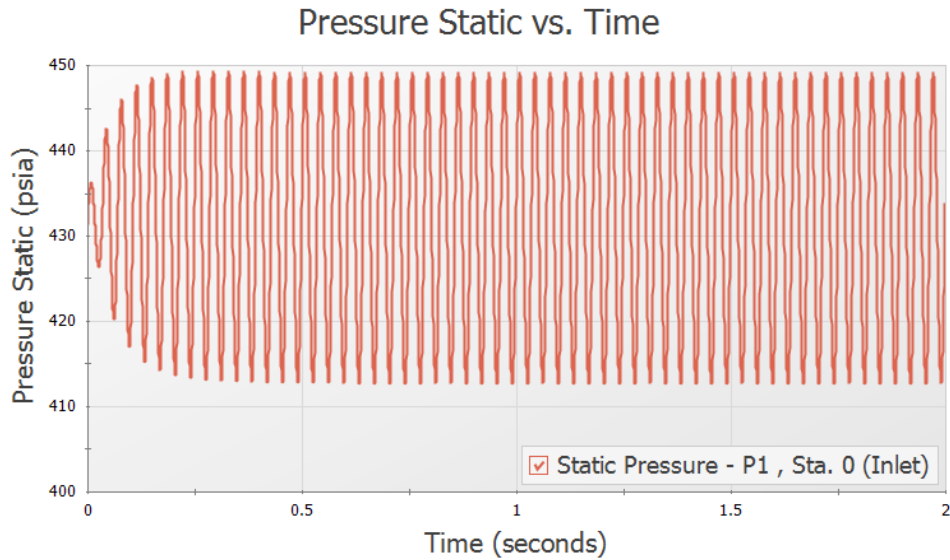

Figure 2: Example pressure results at the outlet of the reciprocating compressor with an oscillating flow transient specified.
- **Time Until Steady State Pulsation** - The time required for the dissipation of artificial transients caused by the introduction of a flow rate wave to the system. This time should be determined by running the scenario with the "Time Until Steady State Pulsation" set to 0, then plotting the pressure results at the outlet of the compressor. The Time Until Steady State Pulsation should be set as the time at which the pressure waves have consistent amplitudes. For example, in Figure 2 below the waves begin to reach constant amplitude at about 0.25 seconds. It is best to choose a slightly longer time interval than the estimated time interval for increased accuracy when checking API-618.